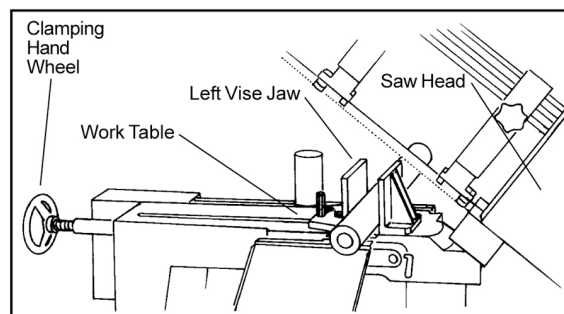

Figure 5: Securing workpiece
1. Raise saw head (Figure 5). (Sect. 10.4 explains operating controls).